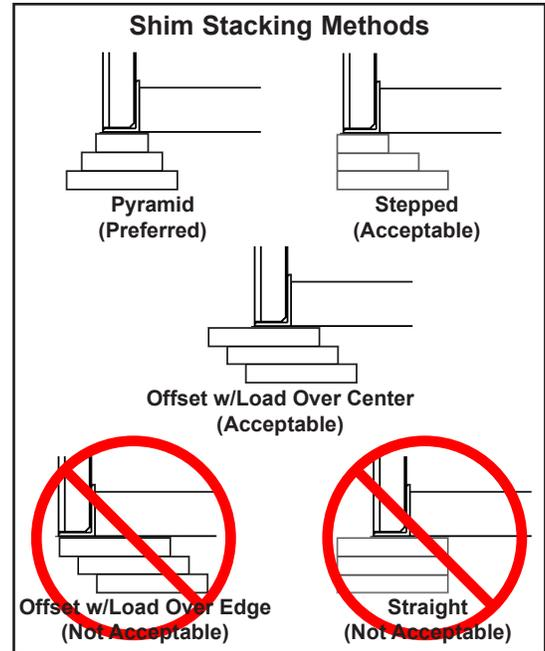

Figure 13
18. Install shims at locations (**B**) using an appropriate shimming method (see Figure 13). Both platform cylinder trunnions must be solidly shimmed the entire length of the trunnion. Make sure the trunnions are level from side-to-side as well as from front-to-back.